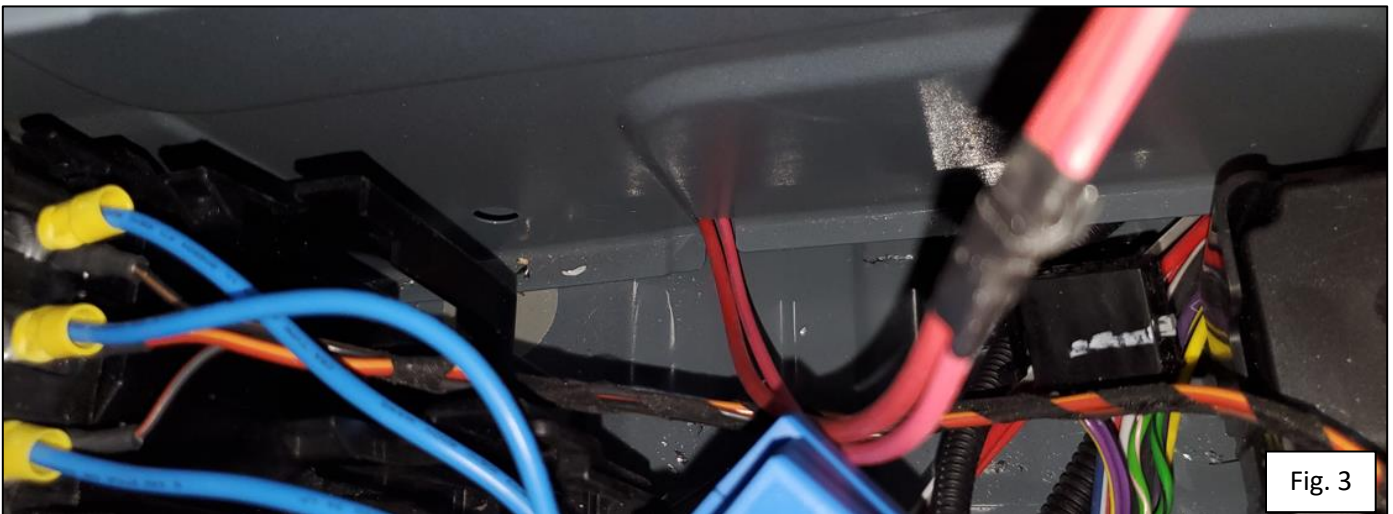

Fig. 3
4. Route the Pink and Red wires from the relay harness jumper (Figure 3)